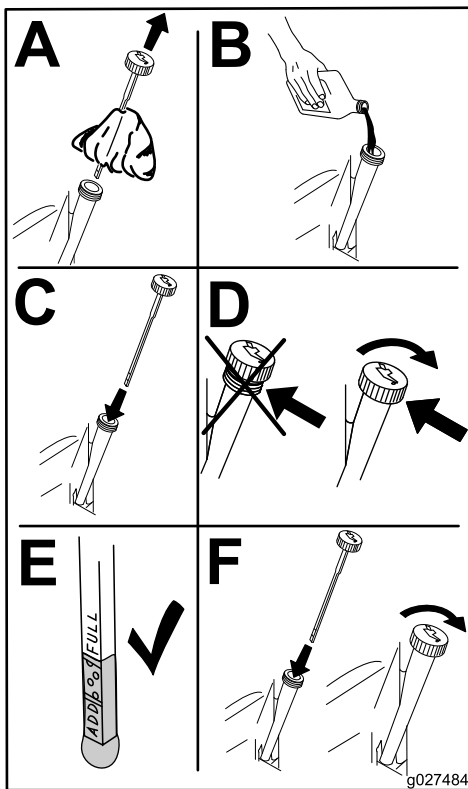

Figure 24
4. Slowly pour approximately 80% of the specified amount of oil into the fill hole (Figure 24).
5. Allow 3 to 5 minutes for the oil to settle, then check the oil level (Figure 24).